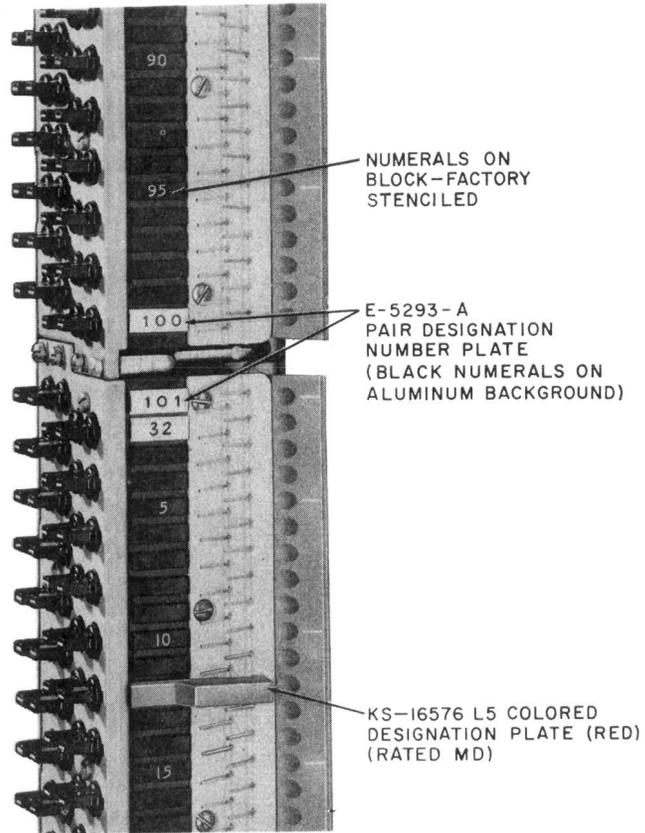

Fig. 3—Pair Designation Number Plates on 300-Type Connector
2.03 Raised ribs are molded into the phenolic block on each side of the connector and are located adjacent to the terminal and test contacts for each pair. E-5293-A type pair designation number plates may be installed on these ribs as required. The connector is factory stenciled from 1 to 95 at intervals of 5 pairs (see Fig. 3).
- 2.07** The marking of a prestenciled 300-type connector with pair designation number plates is illustrated in Fig. 3.